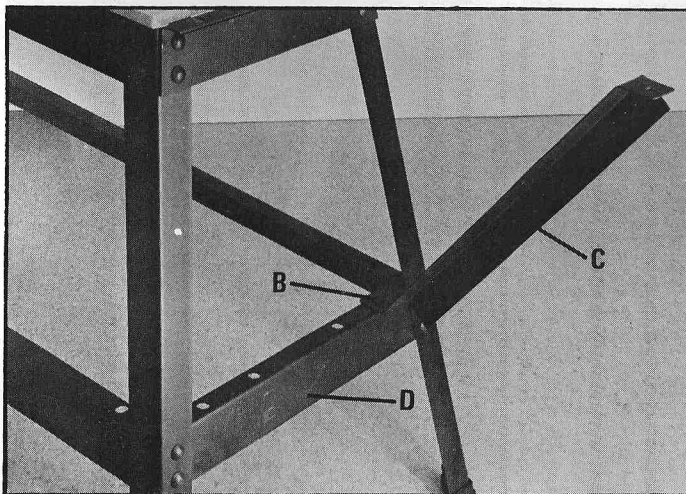

Fig. 26
2. Assemble each of the two diagonal brackets (C) Fig. 26, to leg bracket (D) using a 5/16-18 x 3/4" carriage bolt (B). Fasten each of the diagonal brackets with an 11/32" flat washer and a 5/16-18" hex nut. Do not tighten at this time.